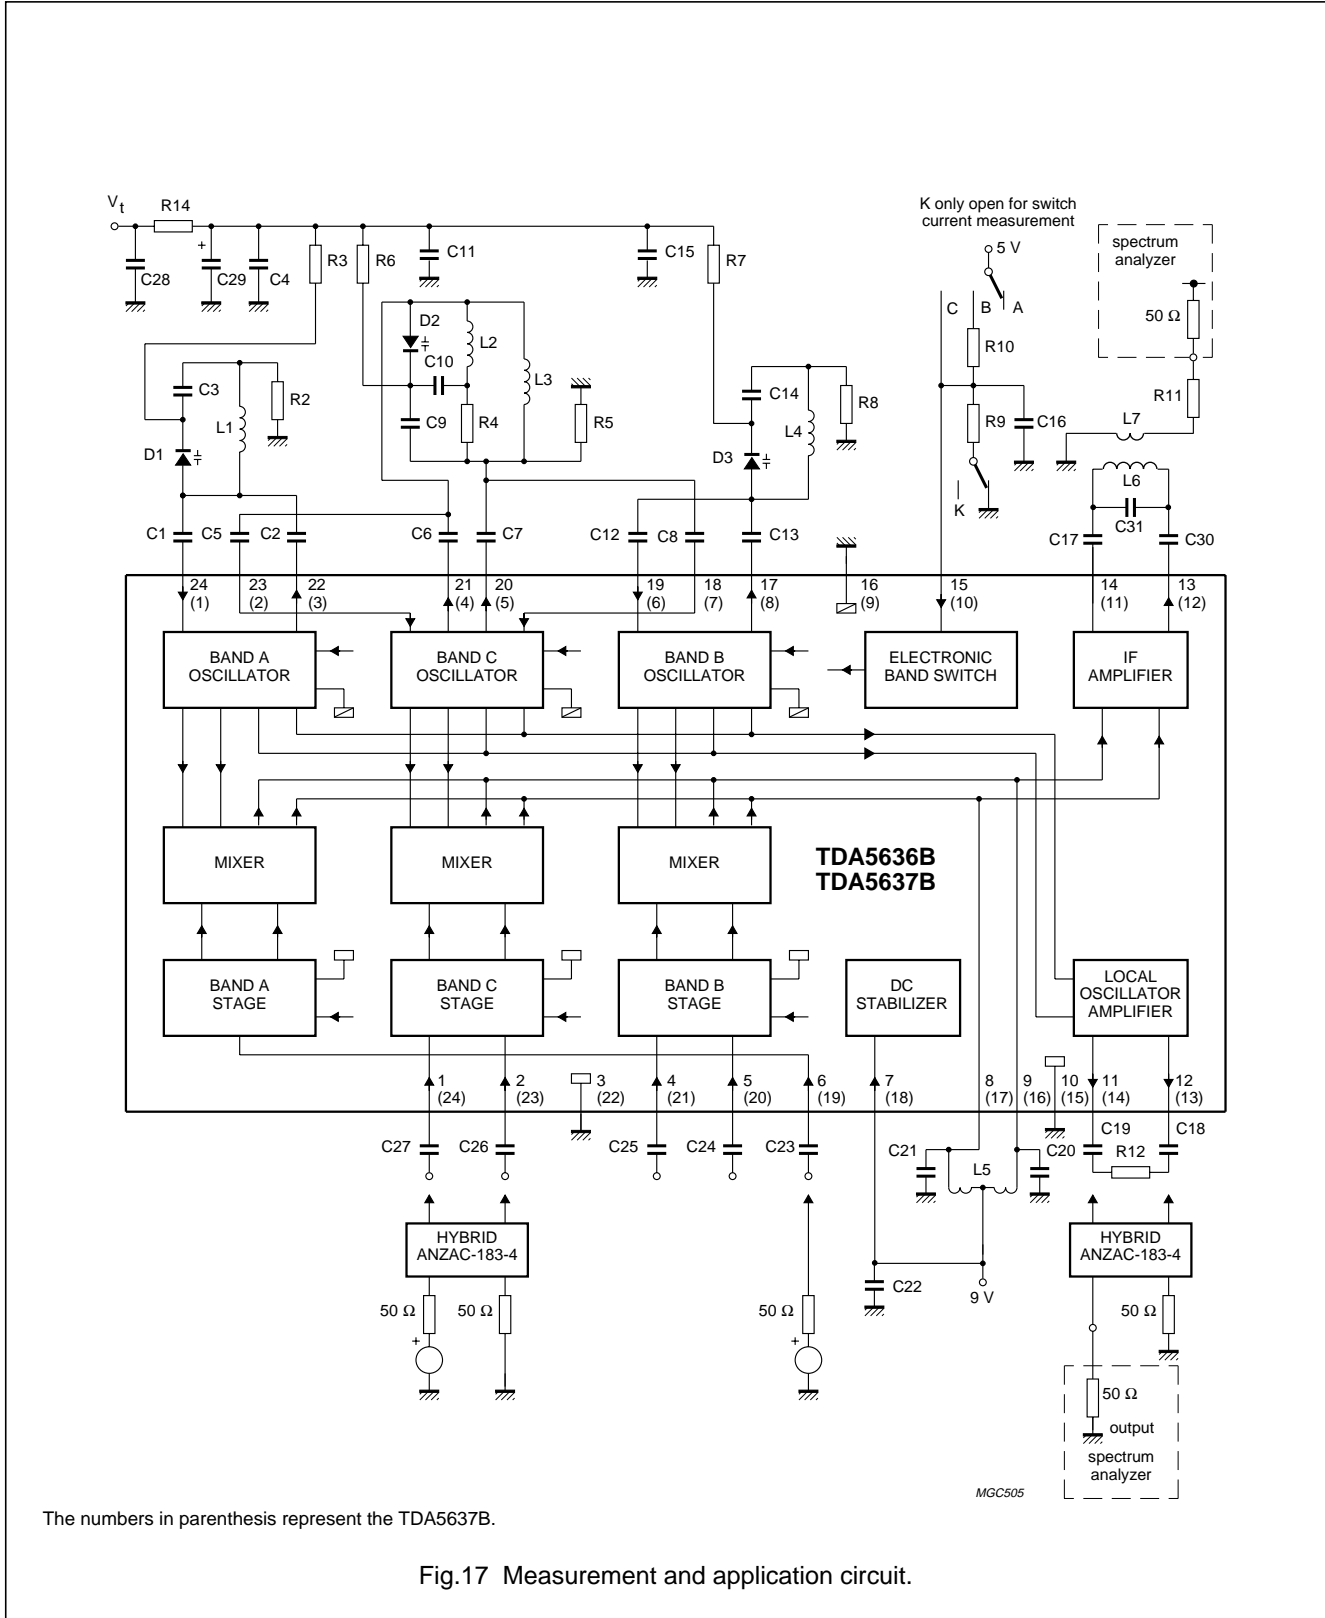

Fig.17 Measurement and application circuit.
- The gain is defined as the transducer gain (measured in Fig.17) plus the voltage transformation ratio of L6 to L7 (10 : 2, 15.4 dB including transformer loss).
- Limits are related to the tank circuits used in Fig.17. Frequency bands may be adjusted by the choice of external components.
## Application diagram component values (see Fig.17)